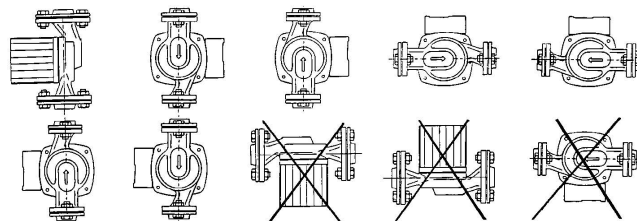

Figure 2: Conduit position
The Model NRF/NBF/SSF Circulator can be installed to discharge up or down, horizontally, left or right, but the motor shaft must remain in the horizontal position, the arrow on the body must point in the direction of the flow, the conduit box must be positioned on the top or to the side of the motor housing see Figure 2 on page 3. If the conduit box position must be changed, it is best to do so before installation. However, if the pump is already installed, see the section titled Removal of the Pump from Existing System for Replacement on page 2 before proceeding.
1. Remove the four (4) ¼ -20 Allen screws (³/₁₆ wrench) while supporting the motor assembly.
2. Remove the motor assembly from the pump body and rotate it to the desired position see Figure 2 on page 3.